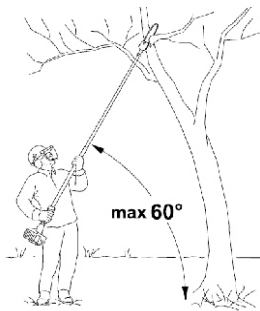

Fig. 21b
3. Always hold the product at an angle of not more than 60° from the horizontal level. Otherwise safe operation is not possible. (See Fig. 21b)